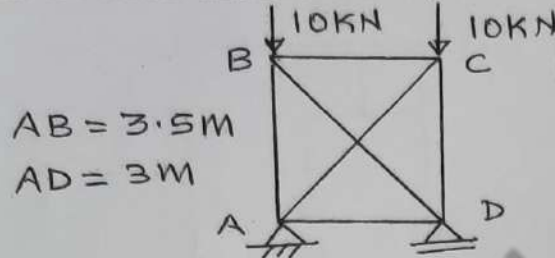

Figure 9
- Q5 a) Analyse the pin jointed plane frame shown in Figure 9. Area of each member is 500 mm^2 and $E = 2 \times 10^5 \text{ N/m}^2$ 10